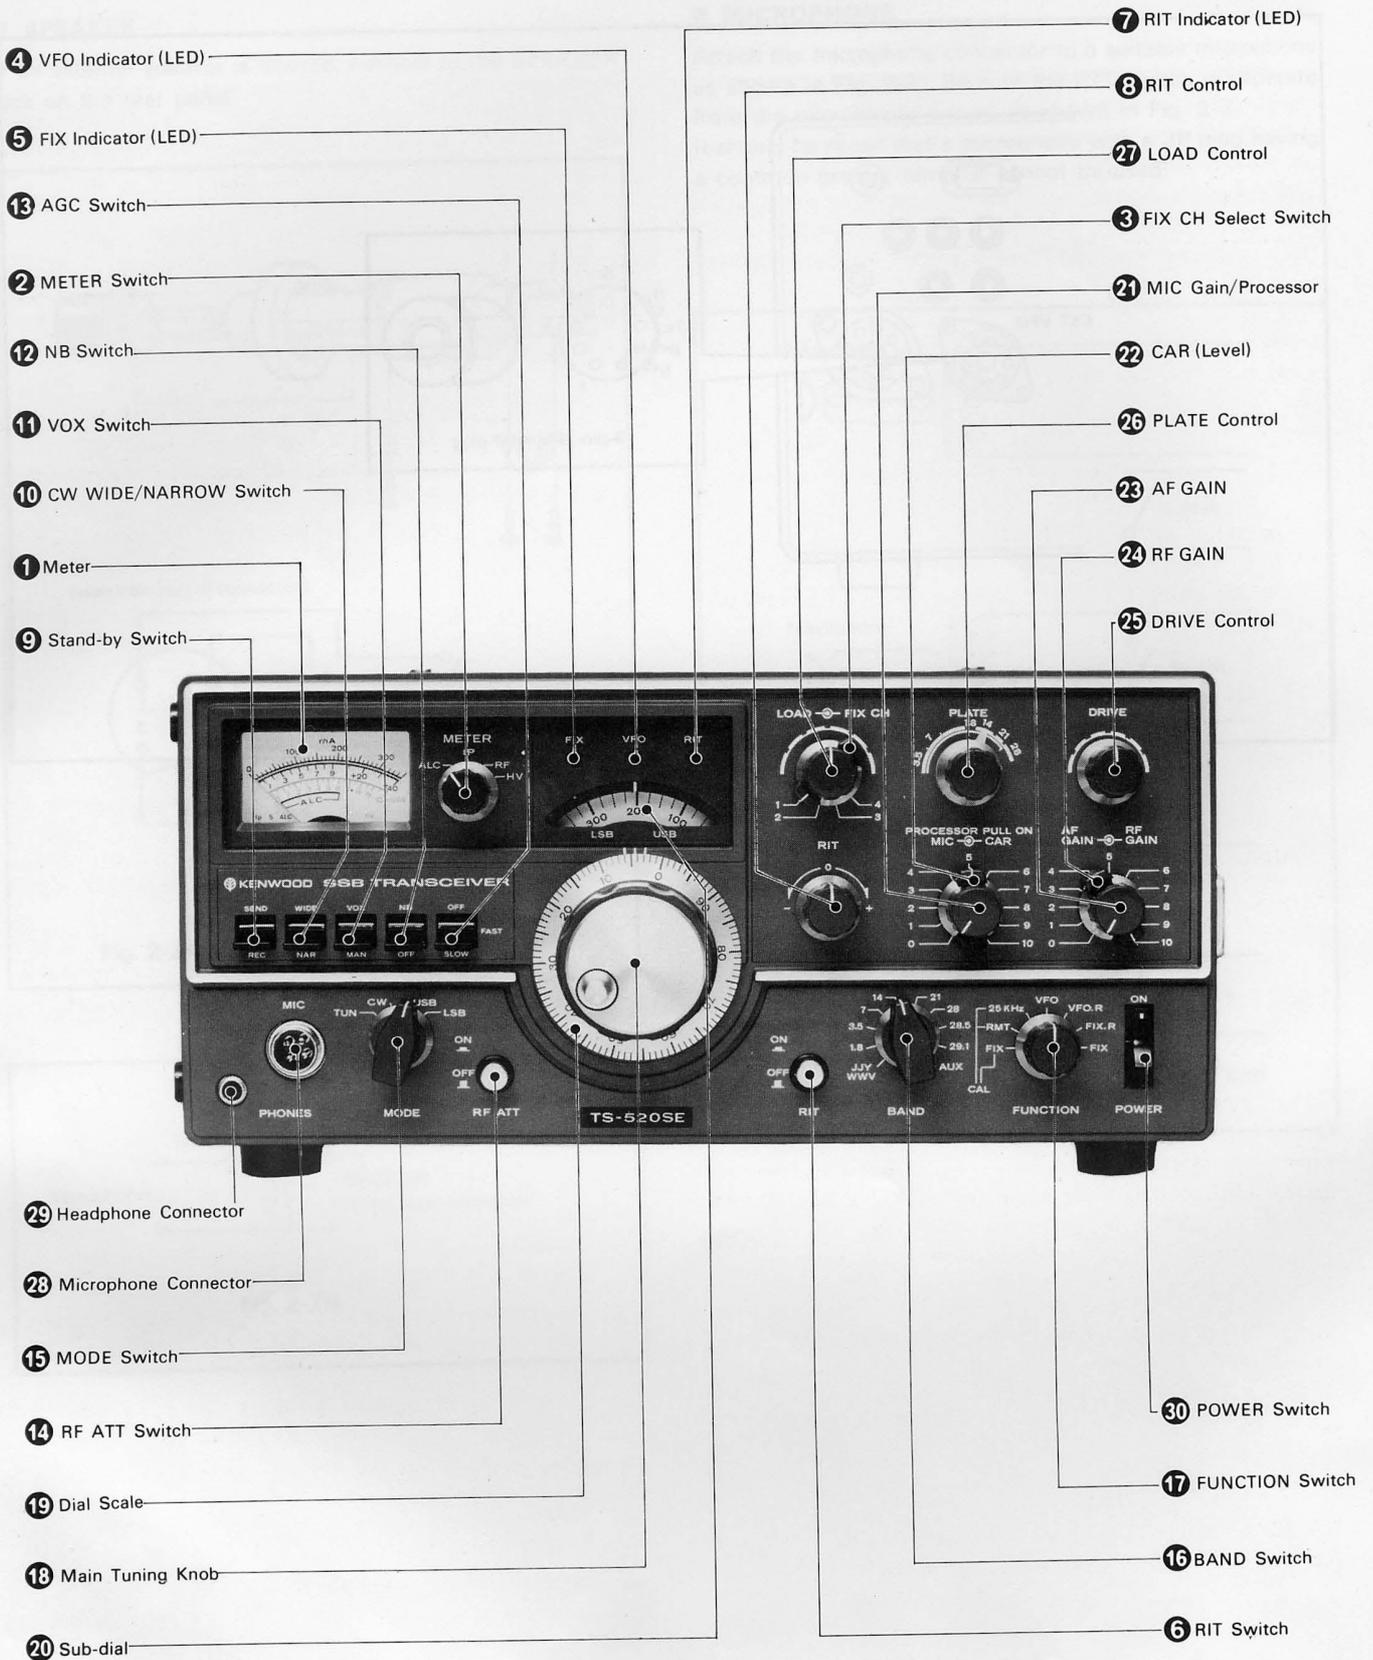

Fig. 3-1 Front Panel Controls
3.1 FRONT PANEL CONTROLS (See Figure 3-1.)